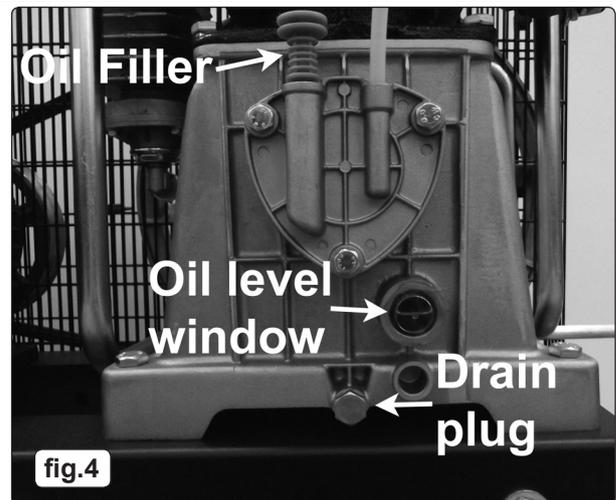

fig.4
- 4.1.6. Remove the plastic transit plug from the oil filler hole, if fitted, (fig.4) and replace it with the dipstick. It is a push fit.
- b) Replace the lubricating oil - see para 5.5.a. shown in fig.4.
- a) Remove the air filter element (fig.4). Using stored air from the compressor's tank, clean the filter with compressed air. (Wear eye protection and **DO NOT** direct air towards the body or hands). **DO NOT** operate the compressor without the filter as foreign bodies or dust could seriously damage the pump. Replace the filter element and air filter housing.
- a) Replace the lubricating oil. (Refer to fig.4) For oil specifications see 5.7. Remove the oil filler, then remove the oil drainer plug draining the oil into a container. Drain when the compressor is hot so that the oil drains rapidly and completely. Replace oil drain plug and refill through the oil filler. **DO NOT** overfill (check level at oil level window, red dot denotes correct level.) Replace oil filler.